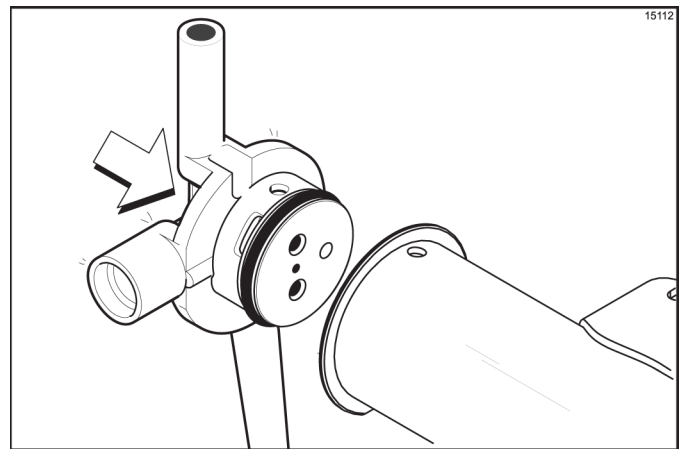

Figure 6-28
8. Insert the mix inlet assembly into the pump cylinder. (See Figure 6-28.)